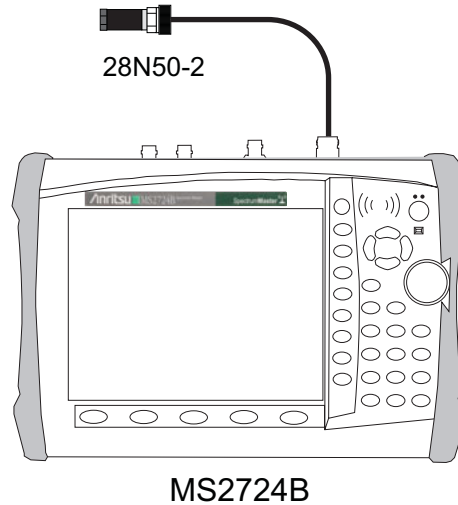

Figure 2-7. Displayed Average Noise Level – Test Setup
1. Connect the 50 ohm termination (Figure 2-7) to the Spectrum Analyzer RF In connector.
7. Press the **Shift** key and then press the **Sweep** (3) key, then press Detection and then the Peak soft key.
7. Press the **Shift** key and then press the **Sweep** (3) key, then press the Detection and the Peak soft keys.